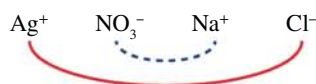

FIGURE 13.4.4 Working out which compound is the precipitate in a reaction.
- Then draw two lines. The first line joins the positive ion of the first solution to the negative ion of the second. The second line joins the negative ion of the first solution to the positive ion of the second (Figure 13.4.4).